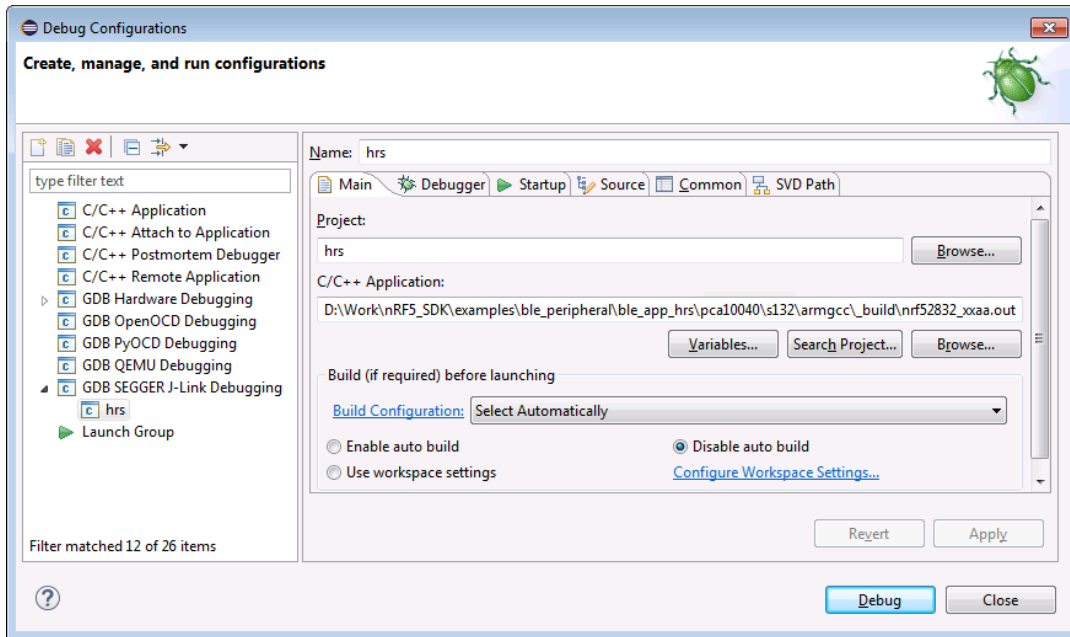

Figure 28: Debug Configurations for the hrs app
6. Select **Disable auto build** (Figure 28).